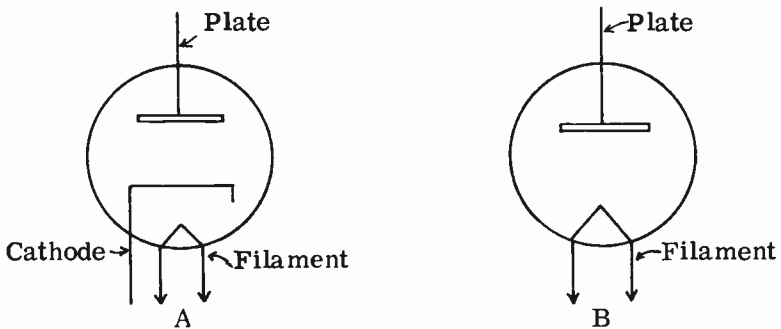

FIG. 6-5A. INDIRECTLY-HEATED DIODE. FIG. 6-5B. DIRECTLY-HEATED DIODE.
**THE DIODE.** Electrons are negatively charged particles that are attracted to a positively charged body. Therefore, if a positively charged electrode, called a **PLATE**, is put into the vacuum tube, it will serve as a collector of the electrons. A vacuum tube which contains a plate and a cathode is called a **DIODE**. The schematic symbol for the diode is shown in Fig. 6-5. Fig. 6-5A is an indirectly-heated diode and Fig. 6-5B shows a directly-heated diode. The plate and the cathode are known as the **ELEMENTS** of the vacuum tube. The diode is therefore a two-element tube. The filament of the indirectly-heated tube is not counted as a separate element.